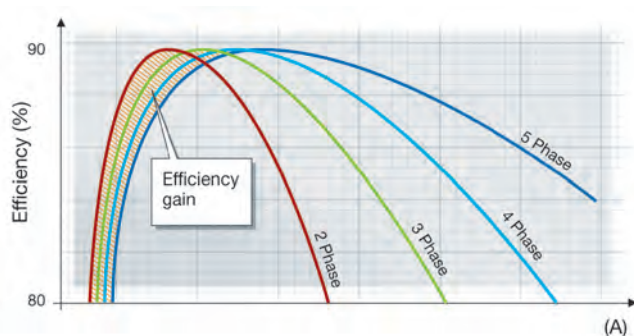

Figure 6 – A multi-phase converter may optimize efficiency by changing the number of phases used dependent on the output current.
Multi-phase converters are a popular technique for generating high output currents with minimal output voltage ripple. However they become less efficient under light loading conditions due to the cumulative effects of switching losses from all the individual phases. Digital control can be used to operate with fewer phases at reduced current loads, a technique referred to as “phase dropping” (2). An example of the efficiency improvement with phase dropping is shown in *Figure 6*. At low load currents, the converter efficiency improves by several percentage points when dropping from 5 phases to 2 phases. This type of implementation and efficiency improvement is not practical with analog control.